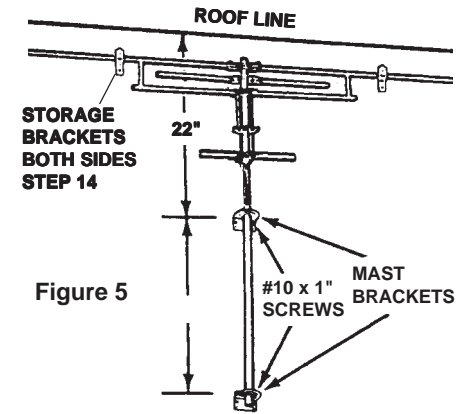

Figure 5
**STEP 12.** Mount mast bracket 22" below roof line. Use two (2) #10 x 1" sheet metal screws provided in hardware bag. See Figure 5. Mount bottom bracket 18" below top mast bracket, making sure brackets line up vertically. See Figure 5.
Remove locking bolt and wing nut from hole in center of mast, slide antenna up thru brackets until hole at bottom of mast is just above bottom mast bracket and insert locking bolt and secure with wing nut. See Figure 5.